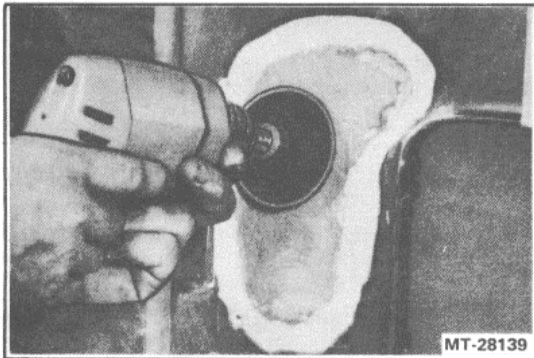

Figure 41. - Sanding Filler Mat
23. Allow the mat to harden. Then, rough sand with 80 grit sandpaper (Figure 41).